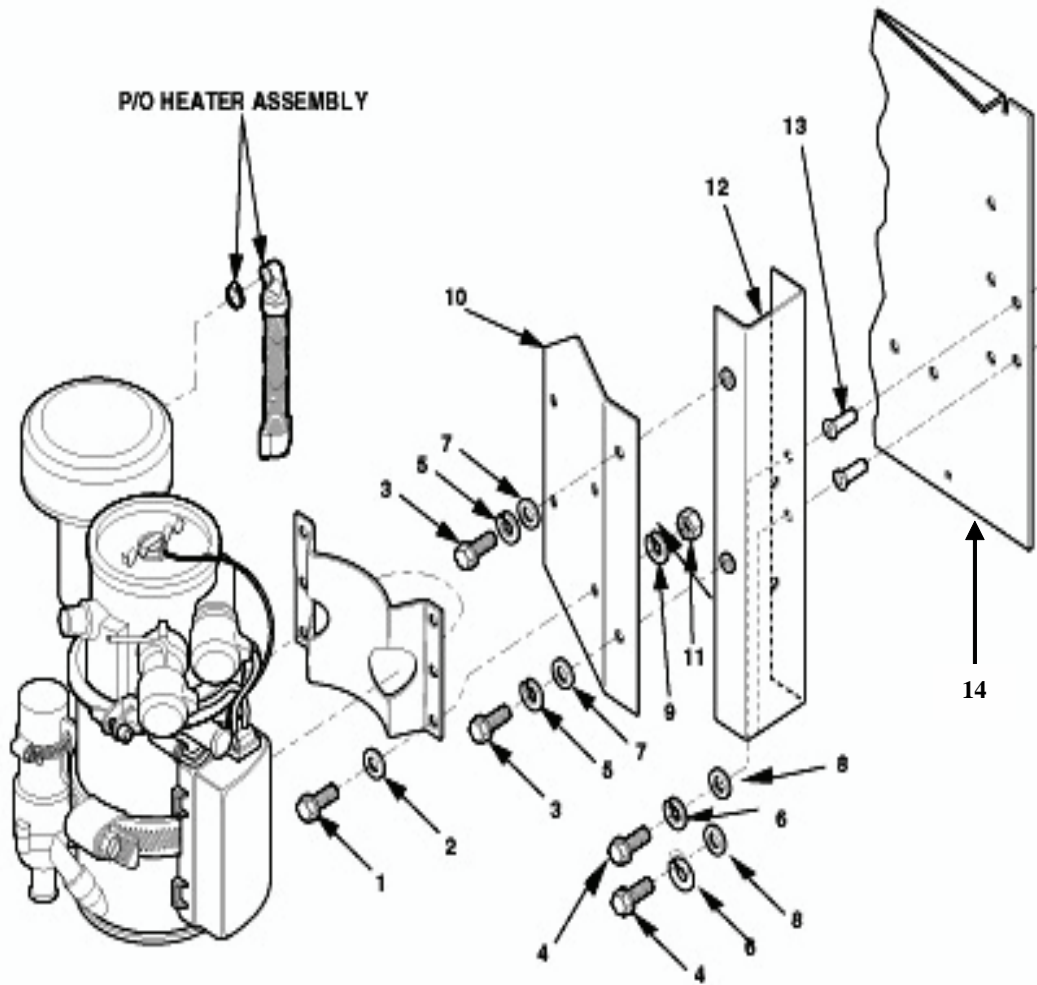

Figure 6-17. Heater Attachment Maintenance.
- c. Support heater. Remove screws (1, 3, and 4, Figure 6-17), washers (2, 7, and 8), nuts (11), lock washers (5, 6, and 9) and heater from heater-mounting brace (10), then heater-mounting brace (10) from wall-mounting bracket (12), and wall-mounting bracket (12) and screws (13) from generator housing (14). Discard lock washers (5, 6, and 9).